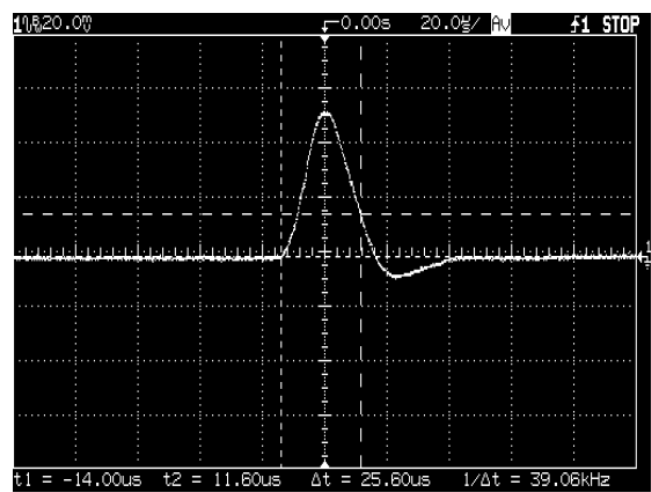

Figure 8-5 Transient response time
- 5** Adjust the oscilloscope to display transients as shown in Figure 8-5. Note that the pulse width ($t_2 - t_1$) of the transients at 15 mV from the base line is no more than 50 ms for the output.